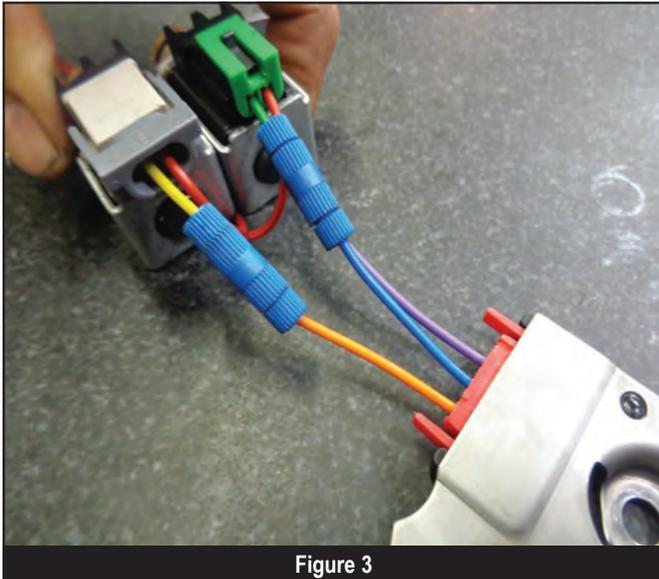

Figure 3
- Cut and splice the C output from the pressure manifold assembly to the ground side of shift solenoid B (figure 3).